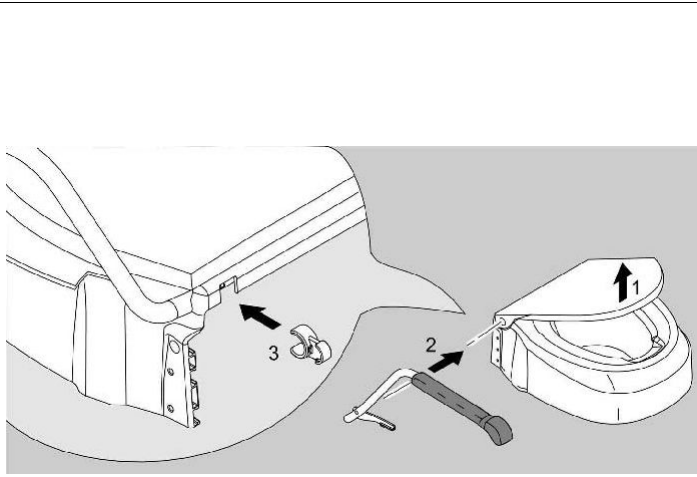

Fig. 8
6. Install the armrests and fixate them with the clips. (Fig. 8) (If applicable)